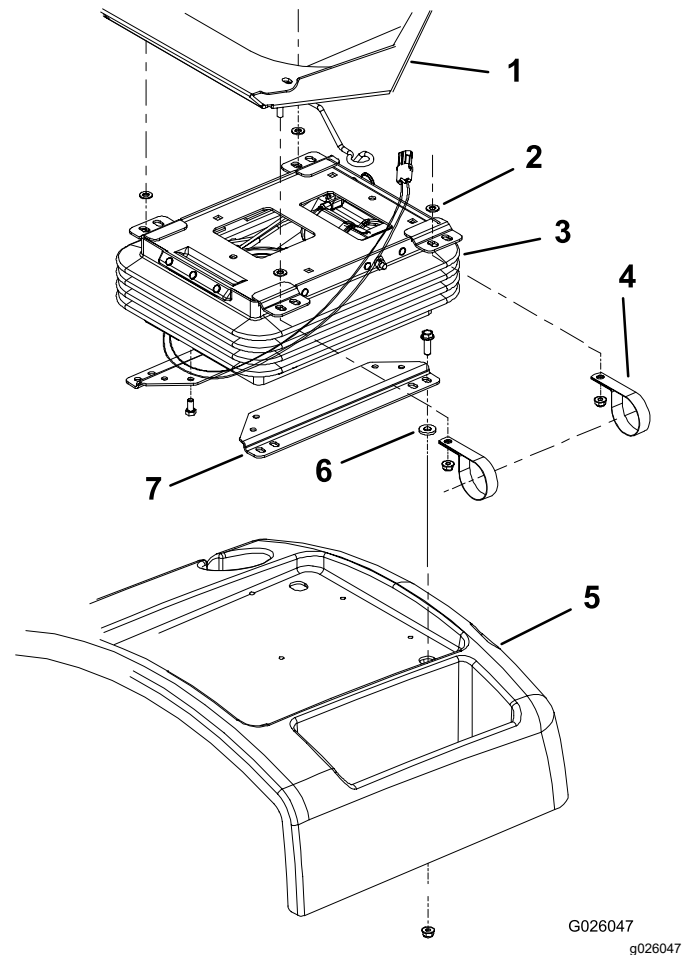

Figure 2
5. Remove the 4 nuts securing the seat adjusters and the manual tube clamps to the seat suspension (Figure 2).
7. Remove the 4 bolts, spacers, and nuts securing the lower seat brackets to the seat base (Figure 2).
9. Remove the 4 bolts securing the seat suspension to the lower seat brackets (Figure 2).
1. Secure the air ride seat suspension to the lower seat brackets with the 4 bolts previously removed (Figure 2).
2. Mount the lower seat brackets to the seat base with the 4 bolts, spacers, and nuts previously removed (Figure 2).
3. Position the seat assembly onto the seat suspension. Ensure that a washer is on each adjuster stud before placing it on the suspension (Figure 2).
4. Secure the seat adjusters and the manual tube clamps to the seat suspension with the 4 nuts previously removed (Figure 2).